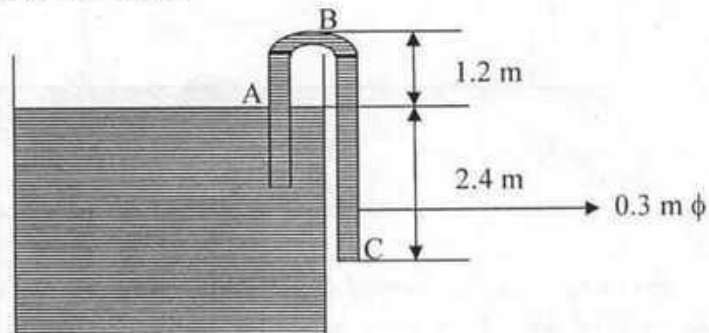

Figure 8
(b). The diameter of a tube is 0.3 m as shown in Figure 8. Determine the velocity of water leaving at C as free jet. Also determine the pressures of water in the tube at B and A. Given, specific weight of water is 9.81 KN/m^3 (7)